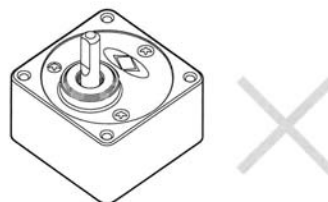

Figure 18.
2. Reserve the gearhead with O-Ring and seal-cap to prevent grease from escaping the Gearhead. (Figure 18)